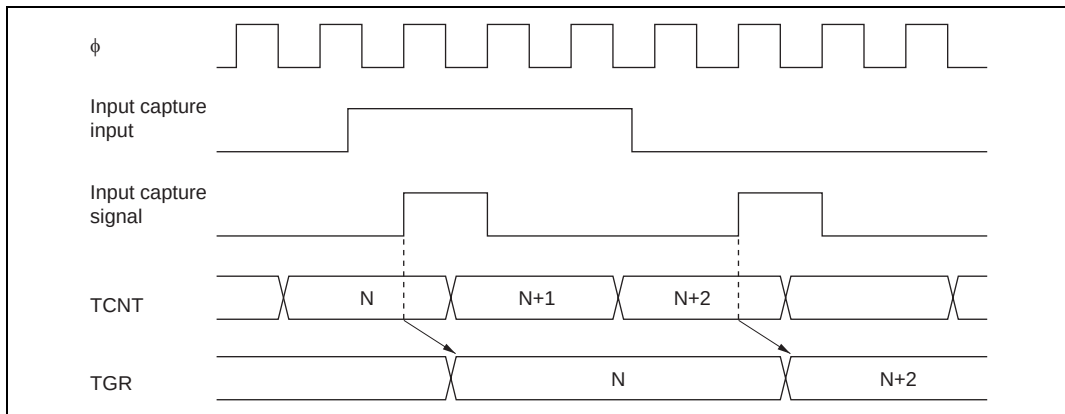

**Figure 9.37 Input Capture Input Signal Timing**
**Input Capture Signal Timing:** Figure 9.37 shows input capture signal timing.